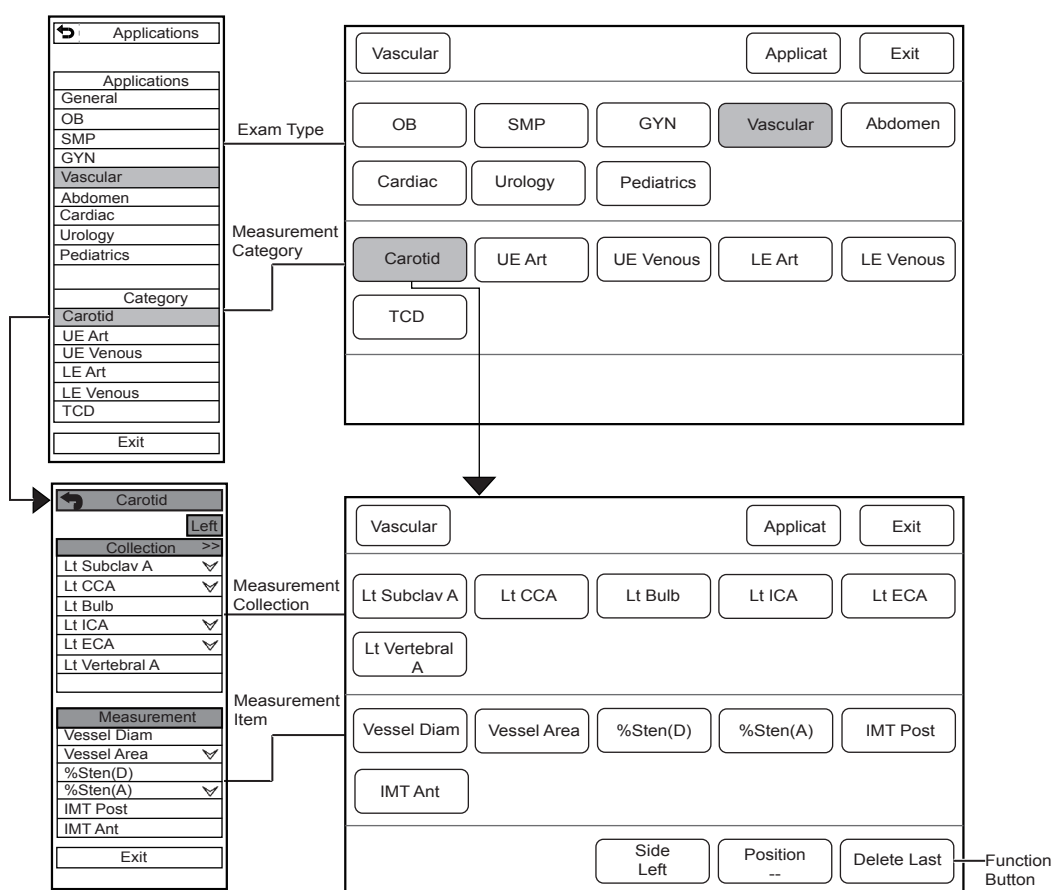

Figure 1-2 Measurement Menu
- Press the **Calc** key on the control panel to display the application-specific measurement menu on the left side of the monitor and the touch screen respectively. The Vascular Measurement menu (as shown in Figure 1-2) is taken as an example in the following description.